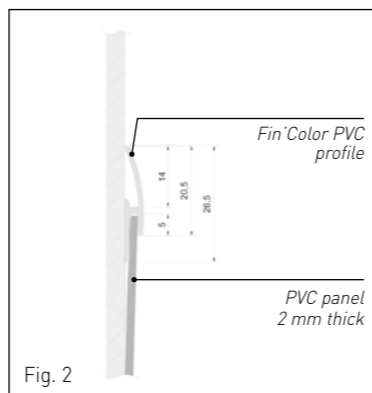

Fig. 2
- Apply the panel and the FIN'ALU profile at the same time to the wall that has been coated with glue (see Fig. 2).
- Position and glue the second panel on the other side of the mounting base in the same way as the first panel (see Fig. 2).
- Cut the horizontal FIN'ALU profile (J-shaped profile) to the dimensions of the wall and place the FIN'ALU profile along the top of the panels (see Fig. 2).